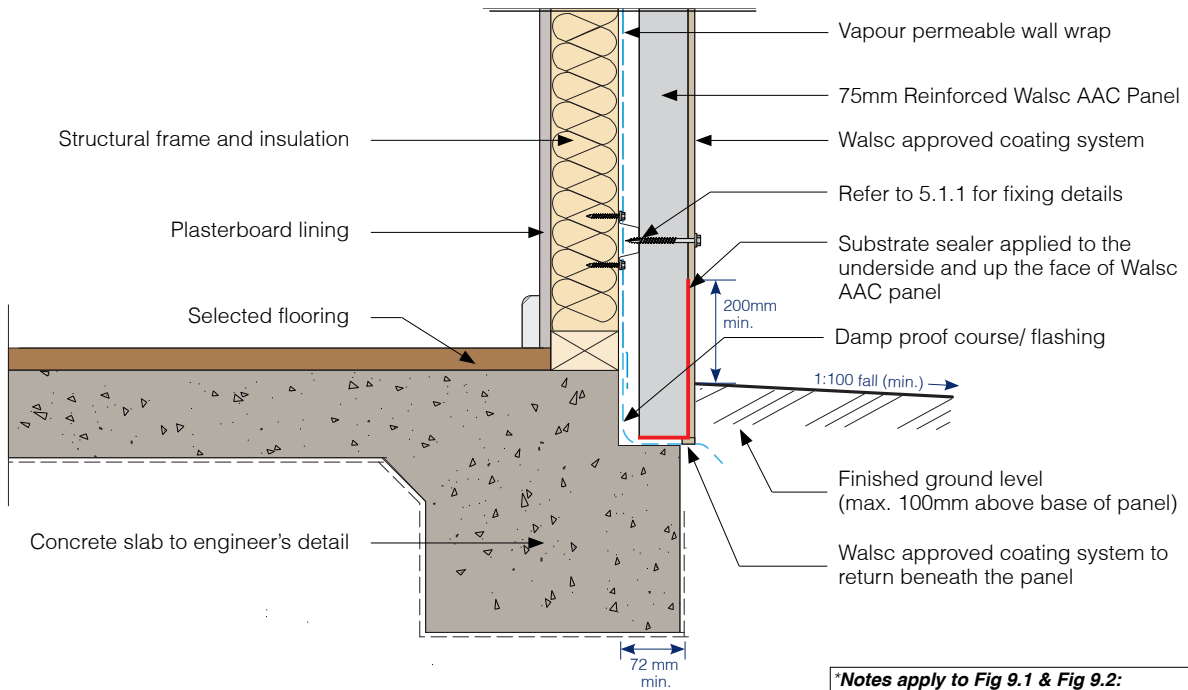

Fig 9.1 Junction to Panel Below Finish Ground Level Detail 1
***Notes apply to Fig 9.1 & Fig 9.2:**